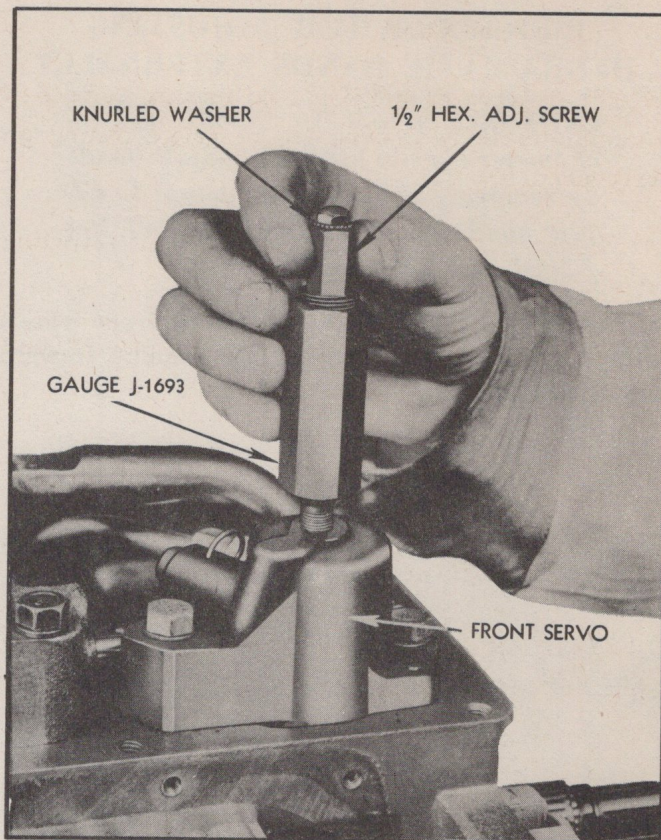

Fig. 79—Adjusting Front Band
4. Screw gauge into front servo, tightening by **HAND** only (Fig. 79).